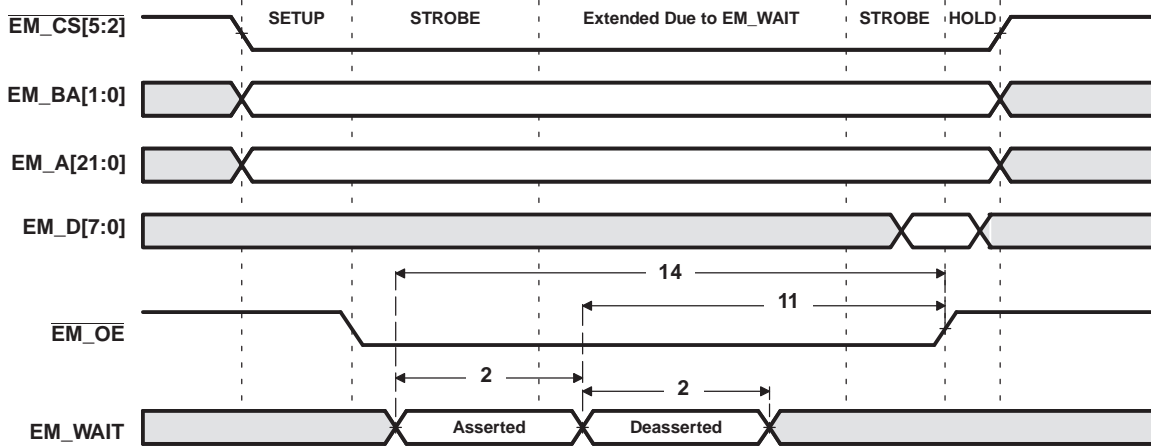
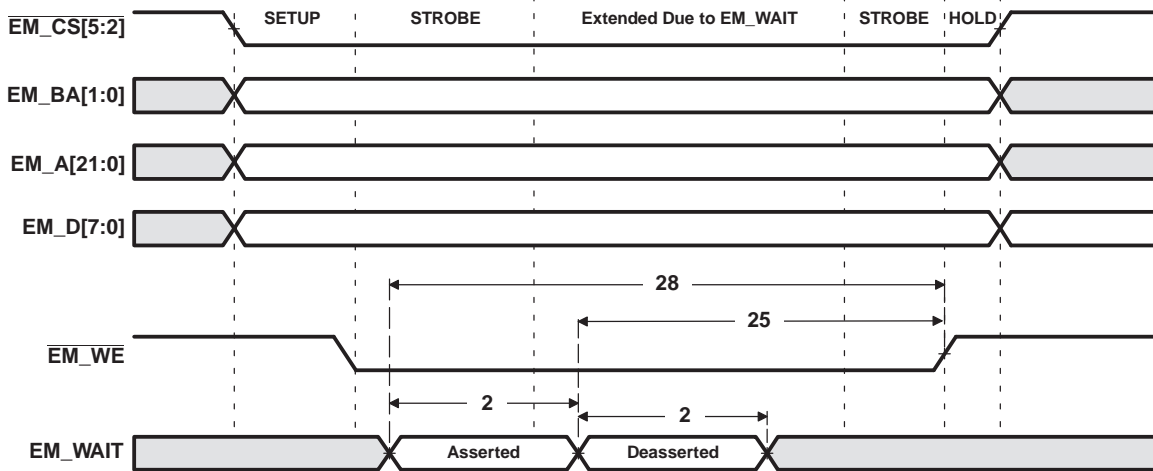

Figure 6-16. $\overline{\text{EM_WAIT}}$ Read Timing Requirements
Figure 6-17. EM_WAIT Write Timing Requirements
- (1) E = SYSCLK3 period in ns for EMIFA. For example, when running the DSP CPU at 600 MHz, use E = 10 ns.
- (2) Setup before end of STROBE phase (if no extended wait states are inserted) by which EM_WAIT must be asserted to add extended wait states. Figure 6-16 and Figure 6-17 describe EMIF transactions that include extended wait states inserted during the STROBE phase. However, cycles inserted as part of this extended wait period should not be counted; the 4E requirement is to the start of where the HOLD phase would begin if there were no extended wait cycles.